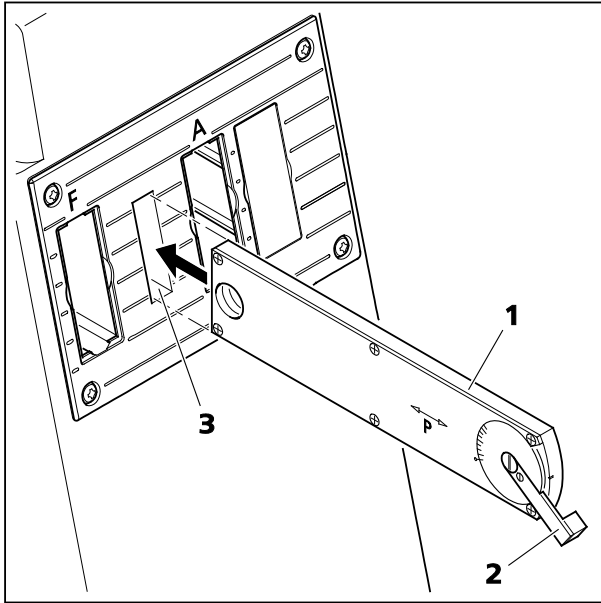

Fig. 157 Slot for Polarizer slider RL 6x30 mm, 90° rotatable
Alternatively, a rotatable polarizer can be used on Axio Observer 3 materials, 5 materials and 7 materials stands which have a slot for Polarizer slider RL 6x30, 90° rotatable (Fig. 157/3).
- Polarizer slider RL 6x30 mm, 90° rotatable, 427710-9060-000 (Fig. 157/1) (section 3.3)
- Slot for Polarizer slider RL 6x30 mm, 90° rotatable (Fig. 157/3)
- Insert the polarizer slider (Fig. 157/1) into the slot (Fig. 157/3).
- Select the desired contrast using the lever (Fig. 157/2).